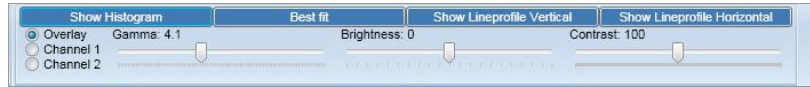

Figure 21: Image Control
3. Adjust contrast and brightness using the Image Control (Figure 21) to provide an improved view of features on the image. Adjusting these settings allows faint features to be more easily seen.